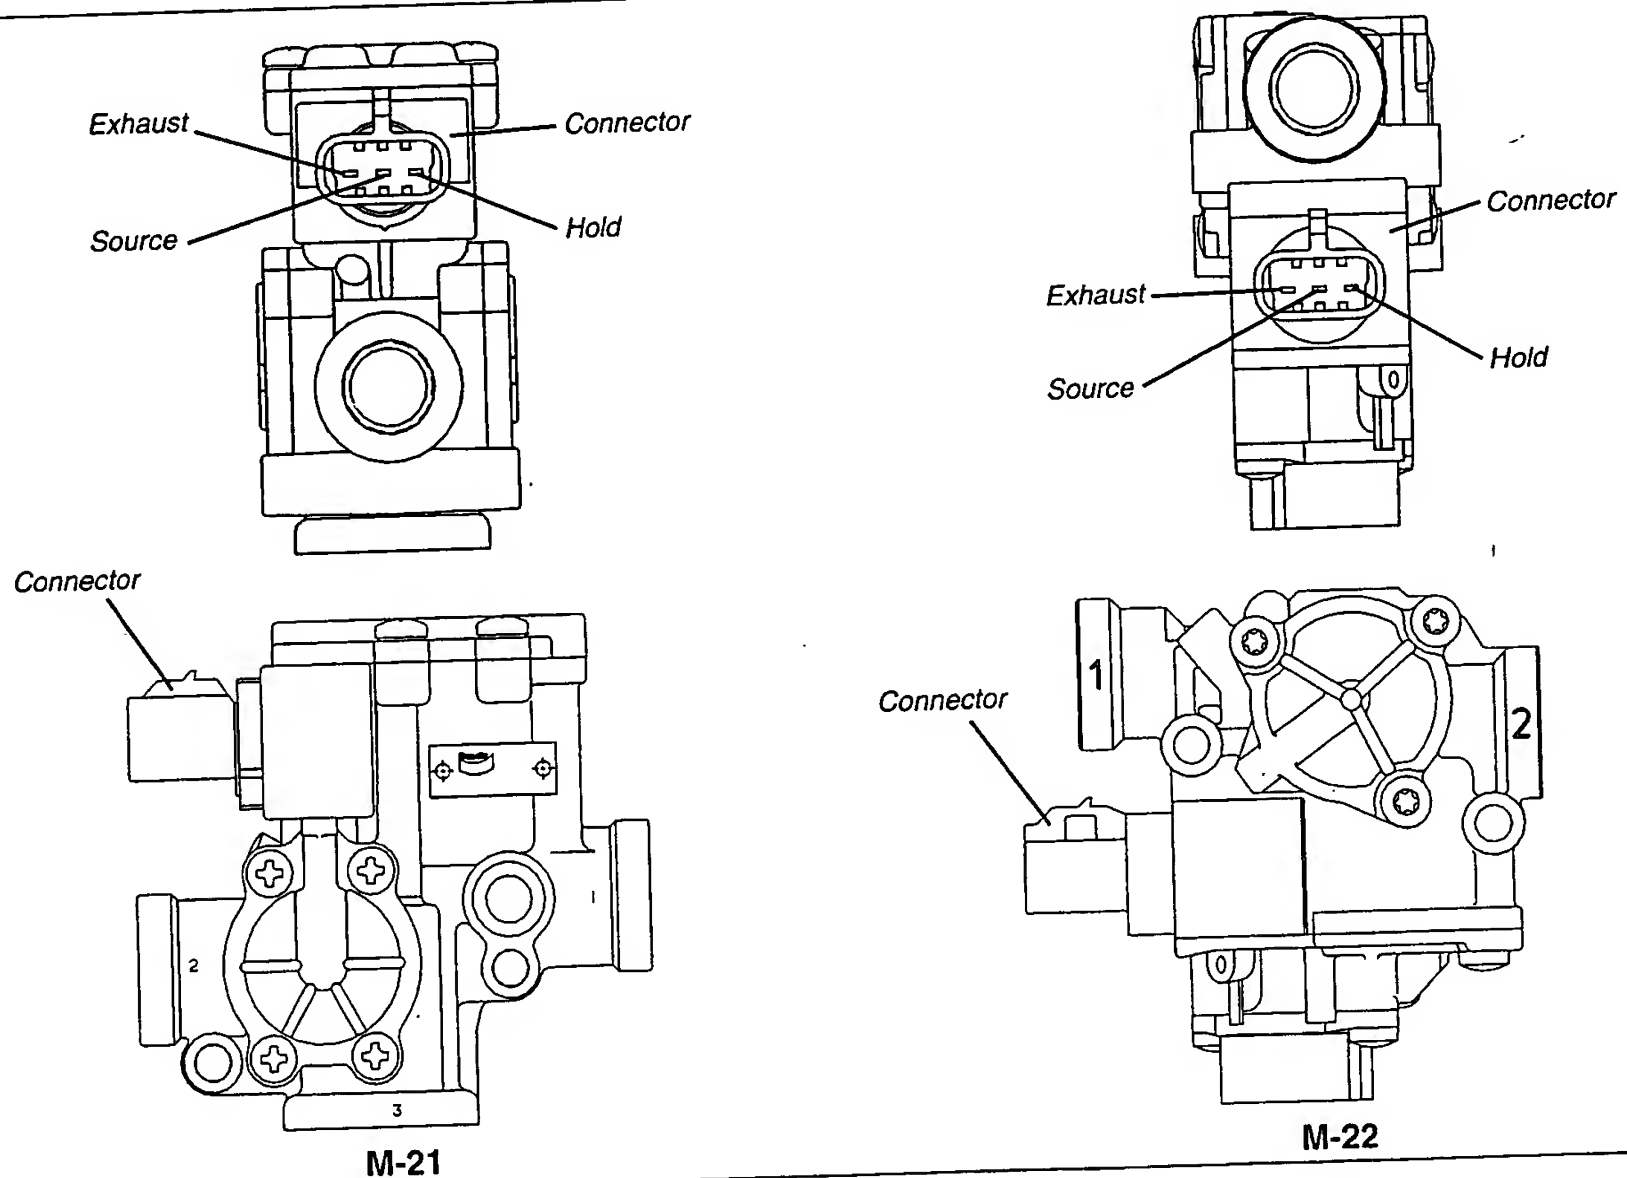

FIGURE 9 M-21,M-22 CONNECTOR
2. Proceed to the modulator in question and inspect its wiring connector. Disconnect the connector and test the resistance between the pins ON THE MODULATOR. Refer to figure 9.